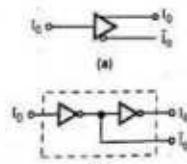

Fig. 7.13.2 Input buffer for single input line
- The Fig. 7.13.2 shows two ways of representing input buffer for single input line.